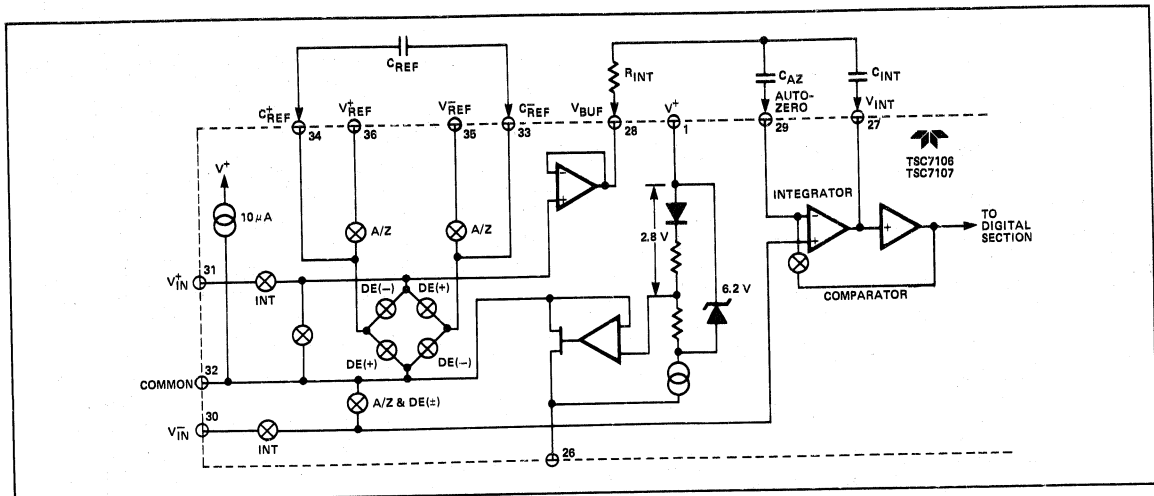

Figure 3: Analog Section of TSC7106/TSC7107
Figure 3 shows the Block Diagram of the Analog Section for the TSC7106 and TSC7107. Each measurement cycle is divided into three phases. They are (1) auto-zero (A-Z), (2) signal integrate (INT) and (3) reference (REF).